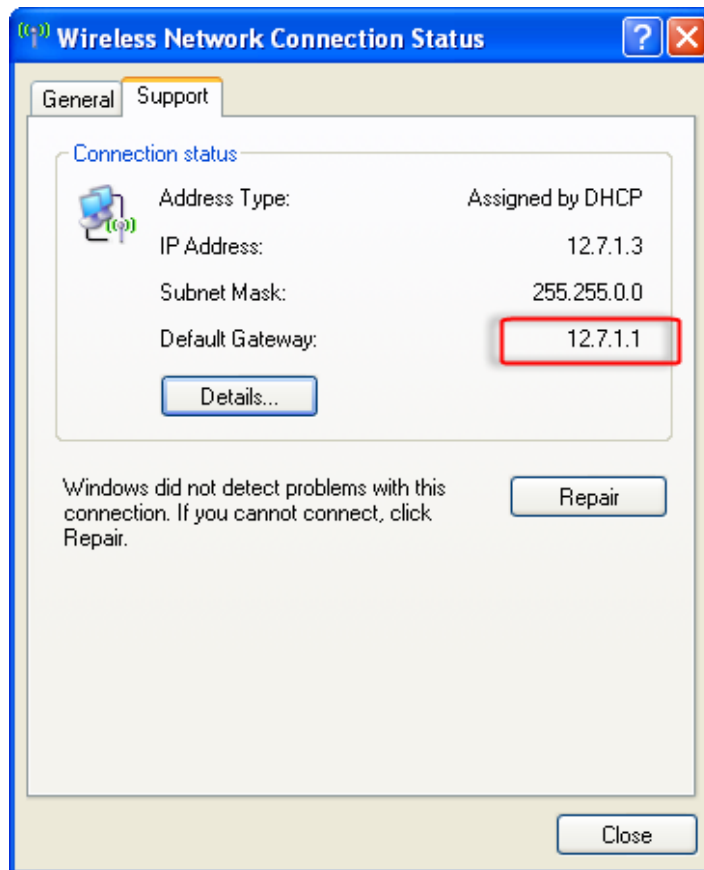

Figure 3-9 Checking the Wireless Network Status
5. Check the wireless network status and obtain the default gateway. See Figure 3-9 for details.